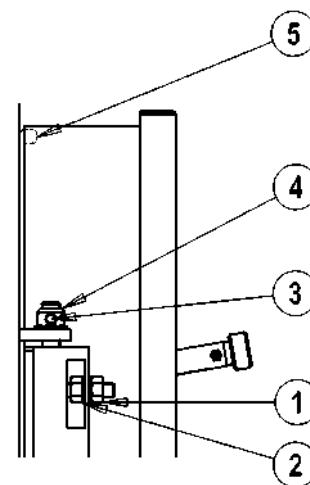

fig. 9
5.6.1 Para modelos PREXTHERM RSH 100N+420N (Fig. 9)